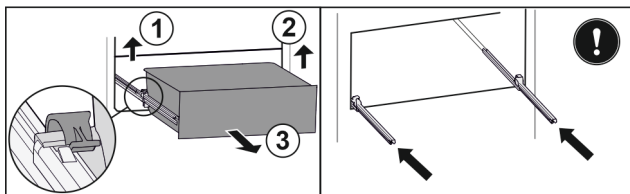

Fig. 95
- Lift left clamp and simultaneously pull drawer forwards on the left. *Fig. 95 (1)*
- Lift right clamp and simultaneously pull drawer forwards on the right. *Fig. 95 (2)*
- Remove drawer to the front. *Fig. 95 (3)*